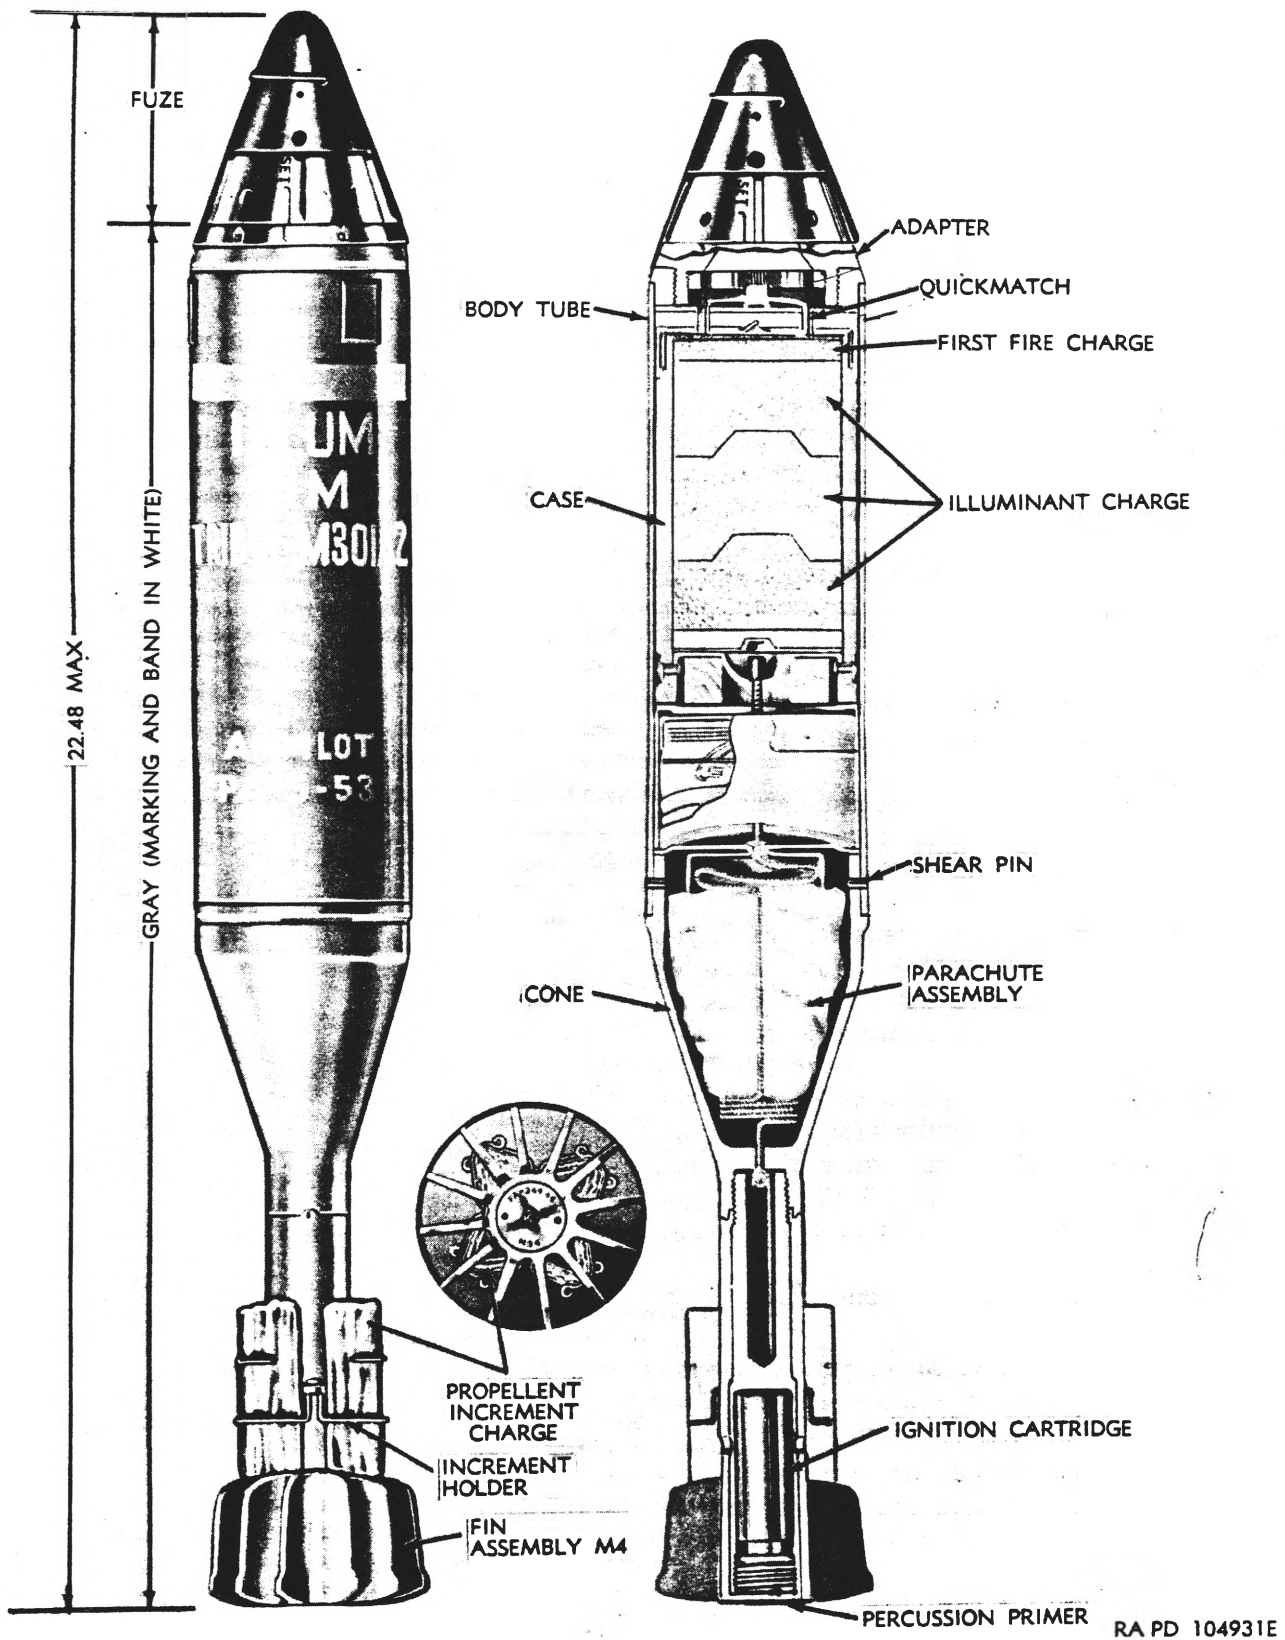

Figure 9. Cartridge, 81 millimeter: illuminating, M301A2, w/fuze, time, M81
a. *General.* The cartridge M301A2 (fig. 9), similar in design to the 60-mm illuminating cartridge M83-series, is intended for illuminating a desired point or area. The complete round consists of time fuze M84, a thin-walled steel body tube assembly, a parachute assembly, steel tail cone, a fin assembly M4 containing propellant increment charges M2A1, ignition cartridge M6, and percussion primer M34. The body is made of thin-walled steel tubing to the front end of which is assembled an internally-threaded steel adapter to seat the fuze. The tail cone is inserted into the body tube and is held in position by four equally spaced shear pins. The base end of the cone is fitted with an internally threaded adapter for insertion of the fin assembly. The illuminant assembly consists of a first fire charge and an illuminant charge contained within a boxboard case. A quick-match assembly is pasted at the forward end of the boxboard case. The